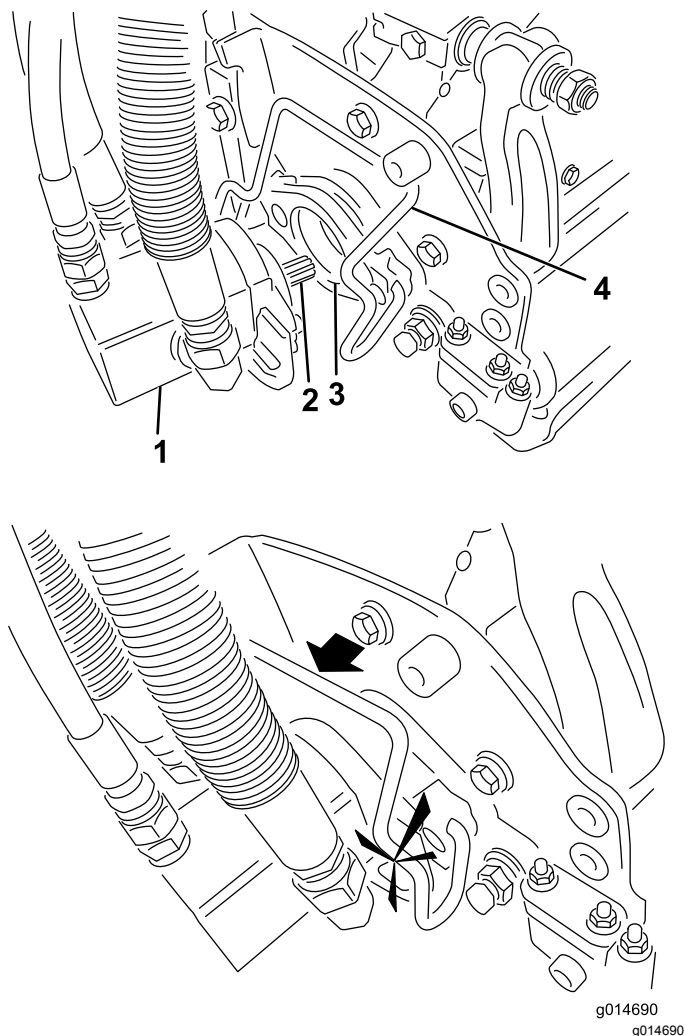

Figure 34
5. Coat the spline shaft of the cutting unit motor with clean grease (Figure 34).
6. Insert the motor into the left side of the cutting unit (as viewed from the operator's position) and pull the motor retaining bar on the cutting unit toward the motor until you hear an audible “click” from both sides of the motor (Figure 34).